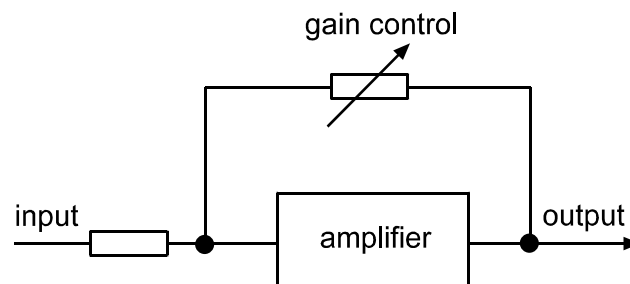

Fig 8.1 Variable negative feedback
1. By using variable negative feedback, as shown in fig 8.1.